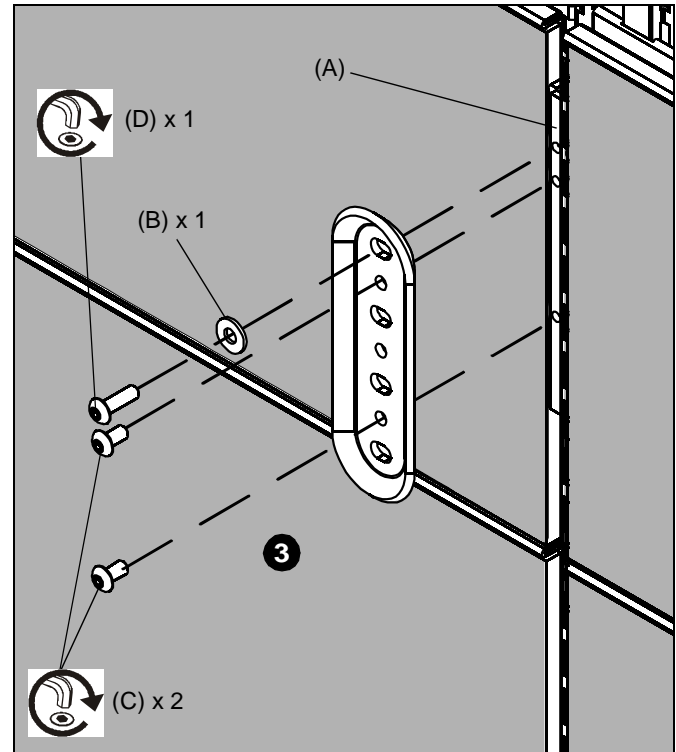

Figure 2
3. Secure mount wall bracket (included with mount) to wall bracket (A) using two 10-24 x 3/8" button head cap screws (C) and one 10-24 x 5/8" button head cap screw (D) and #10 flat washer (B). (See Figure 2)